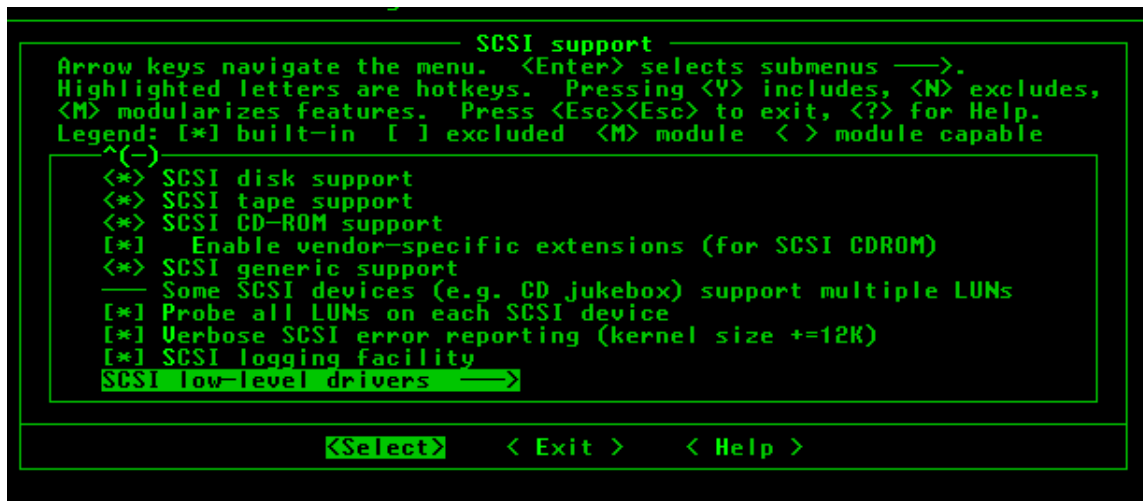

Figure 20-3 SCSI Low-Level Drivers Submenu
5. Scroll down the SCSI support menu to the SCSI low-level drivers submenu, as shown in Figure 20-3.
As shown in Figure 20-3, under SCSI low-level drivers —> select Adaptec AIC7xxx support as modular or static depending upon the host system. (See *Modular vs. Static SCSI Driver Discussion* on page 20-14.)